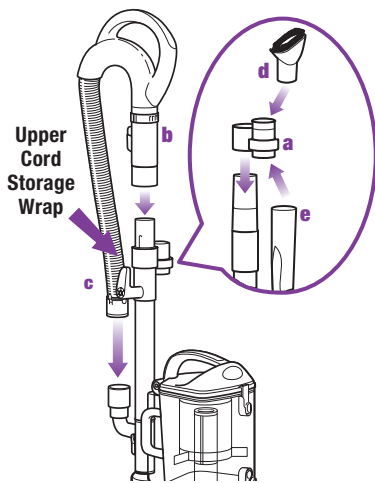

Fig. 10
- 4 Slide the accessory holder (a) positioned opposite the upper cord wrap, over the extension wand. Align the tab with the groove and push down. (Fig. 10)
- 5 Push the handle (b) onto the top of the extension wand until you hear it click into place. (Fig. 10)
- 6 Insert the end of the stretch hose (c) into the connector on the back of the detachable canister. (Fig. 10)
- 7 Store the dusting brush (d) and the crevice tool (e) on the mounts of the accessory holder. (Fig. 10)